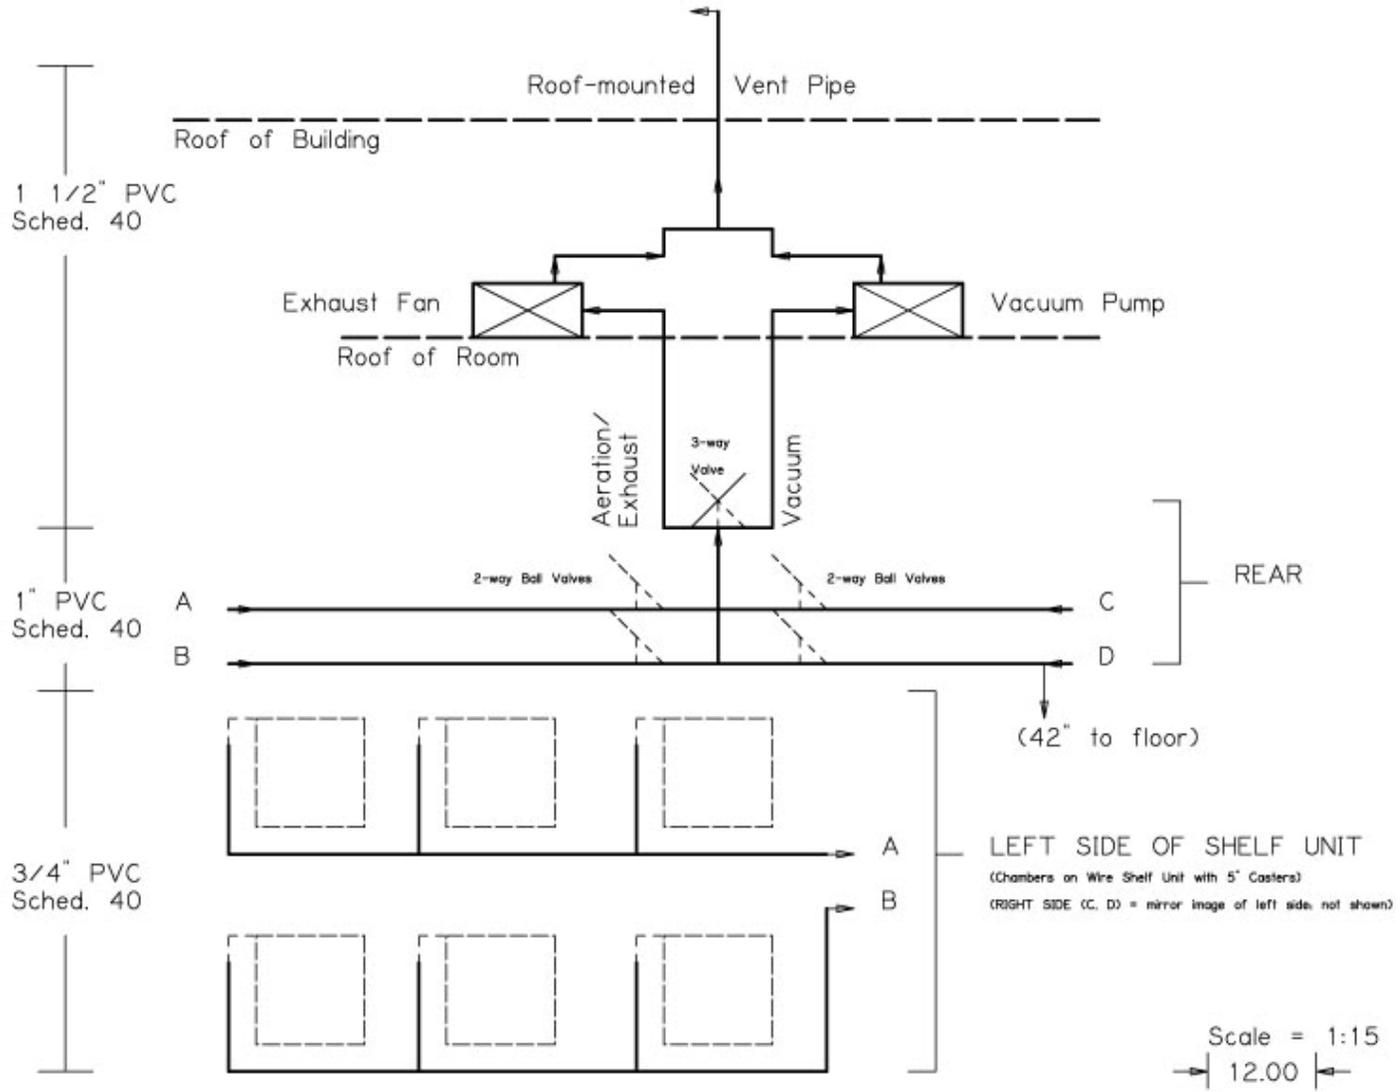

Figure 3. Diagrammatic representation of the 28.32 L fumigation chamber.
The chamber is a modified fiberglass vacuum desiccator cabinet (Labconco® # 5530000; Figure 1). A diagrammatic representation of the modified version is shown in Figure 3. The chamber comes equipped with a 3-way vacuum release valve, a side-hinged door, a stainless steel (SS) pan, and two removable aluminum shelves each with twelve 7/8" (22 mm) holes. Modifications to the chamber serve to allow connection to the manifold, introduction and sampling of the fumigant, air circulation inside the chamber, installation of a vacuum gauge, and the addition of an air inlet port for use during the aeration period following the exposure period of the treatment schedule. This port may also be modified to allow for the use of a needle syringe to inject the fumigant dosage.